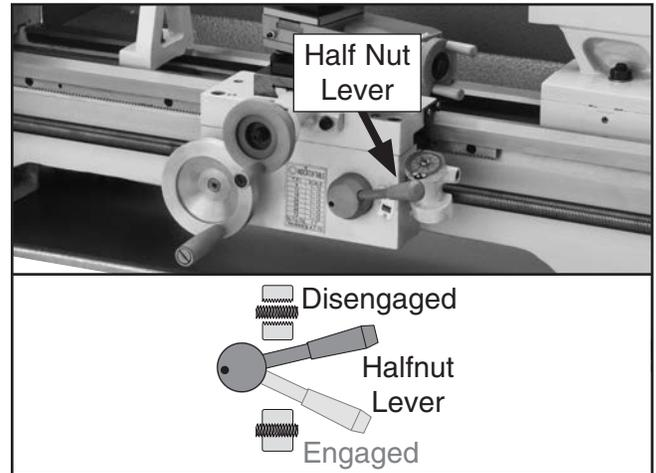

Figure 22. Half nut lever in the disengaged position.
6. Disengage the half nut with the lever shown in **Figure 22**.